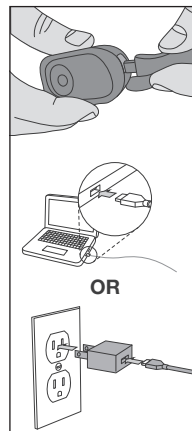

FIGURE 3.1.1
- Plug the micro-USB cable into the Flare RT (Figure 3.1.1).